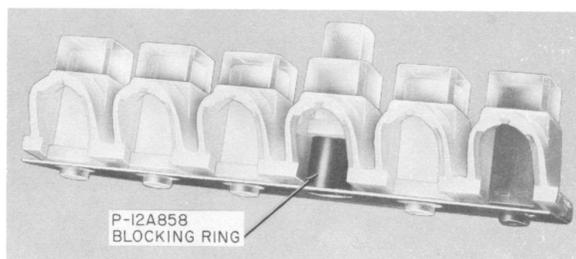

Fig. 5—Installation of P-12A858 Blocking Ring
3.13 All unused pickup key positions should be blocked inoperative by using a P-12A858 blocking ring. Install ring between key plunger and cover plate of button and collar assembly as shown in Fig. 5. One ring is shipped loose with these sets.